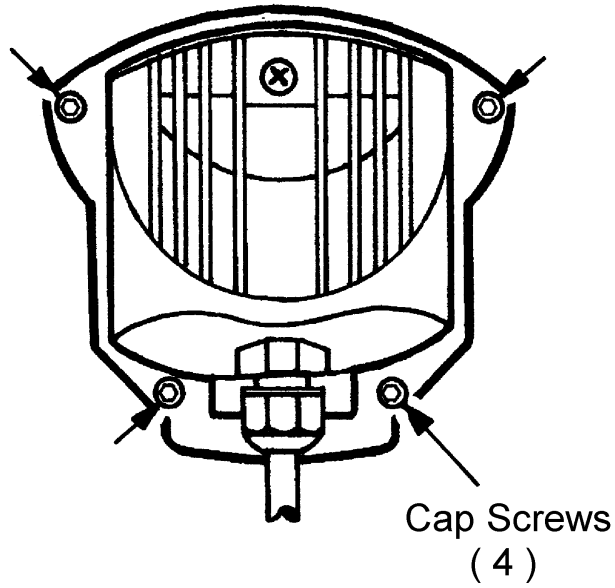

FIGURE 10-5
Step 10.2.2 - Remove the four cap screws with a 3mm Allen key. See **Figure 10-5** on page 22.